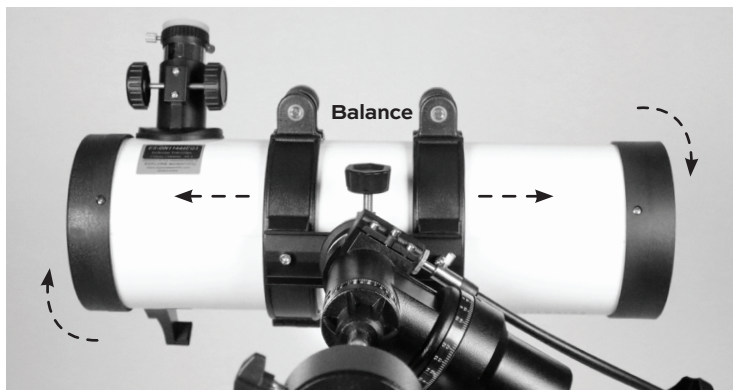

Figure 7.2
6. Move the telescope in the cradle rings until the telescope remains in one position without tending to drift down in either direction (Figure 7.2).